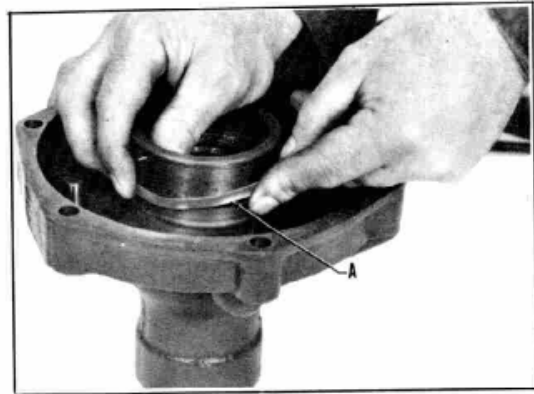

Figure 30
10. Apply a light coat of Hydra-Matic fluid over the outer surface of the reverse cone piston inner seal (A) and install the seal with the lip down on rear bearing retainer hub, Figure 30. Work seal well into groove.